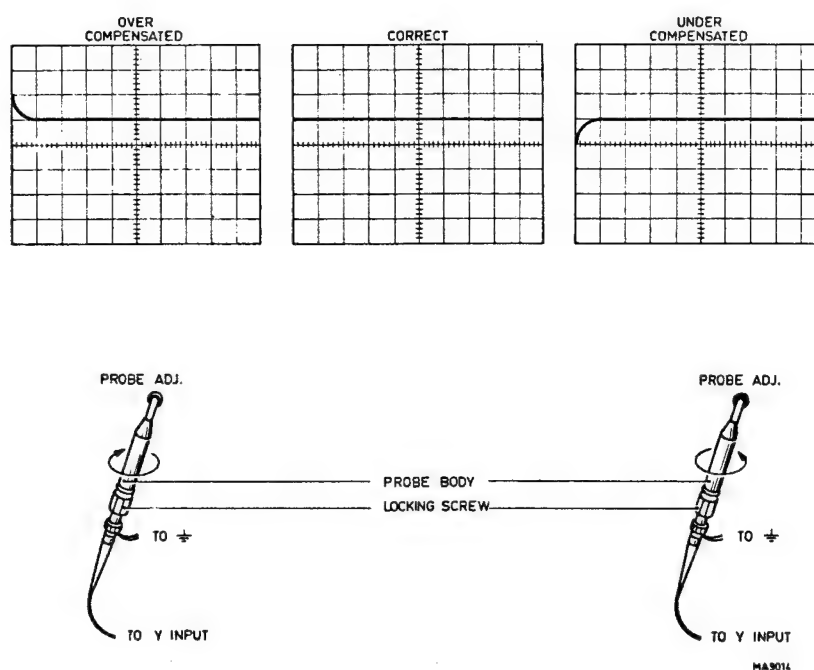

Fig. 2.3. Adjusting an attenuator probe
- Loosen the 'locking screw' and turn the 'probe body' (see Fig. 2.3.), in relation to the cable until correct adjustment is obtained.